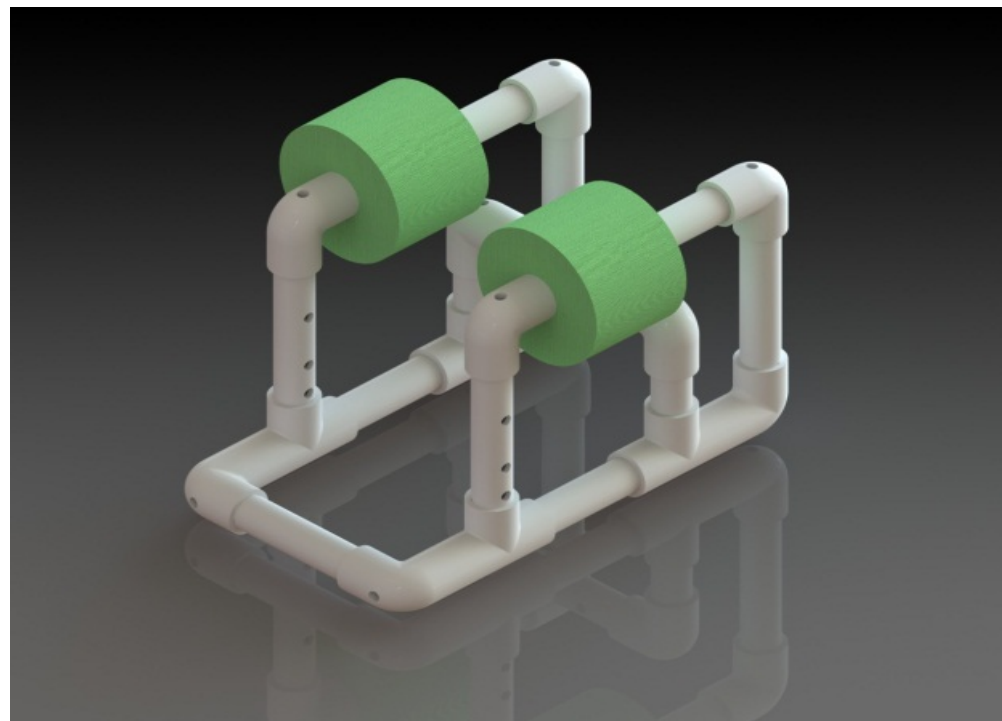

Figure 1.3-2: Assembled ROV Frame with Top Pipes and Foam Floats
2. Slide the foam floats onto each of the horizontal pipes on the top of the frame as shown in Figure 1.3-2.
3. With the frame placed on the floor or on a sturdy tabletop, push down hard on all parts of the vehicle frame, turning and pressing from all sides, so that the PVC fittings and pipe sections all fit together very tightly. **Be sure to press HARD, or use a rubber mallet to firmly tap on all elbows until the ends of the pipe sections bottom out inside the pipe fittings.** Adjust the sides and the bottom of the frame as needed to square up the vehicle, as shown in Figure 1.3-2 (or tilt the sides at an angle if you wish!). **It is important to do this before installing the bottom payload netting.**